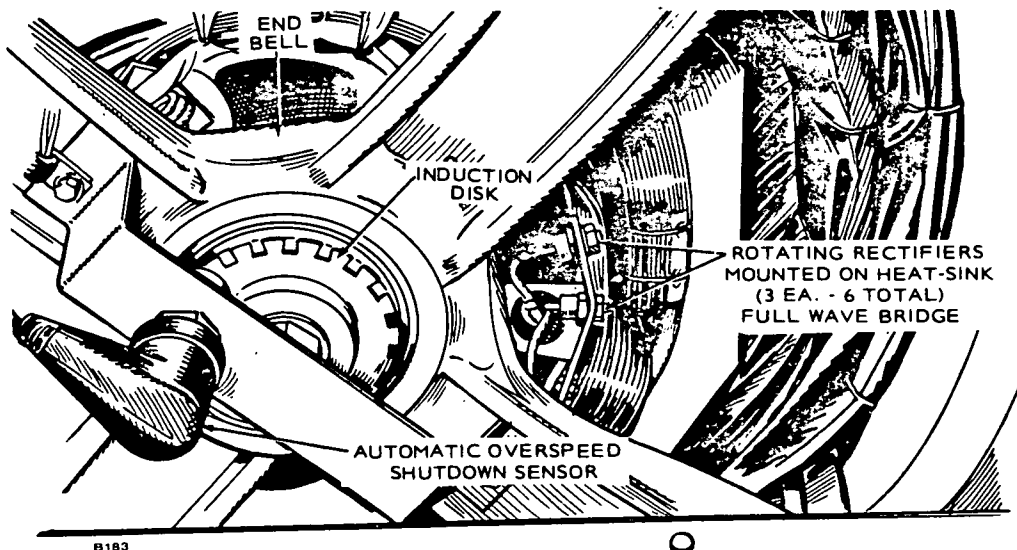

FIGURE 2. OVERSPEED SENSOR
**Overspeed Shutdown:** Shutdown occurs if engine speed exceeds 2010 r/min. A sensor mounted on the generator shaft (Figure 2) signals an overspeed condition which shuts down the engine through control module A16.